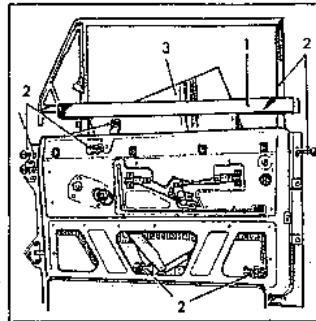

Fig. 12.9 Door glass removal showing top seal (1), glass frame channel and retainers (2) and glass (3) (Sec 15)
- 7 Unbolt and remove the glass frame channel. The frame securing bolts and screws are shown in Fig. 12.9.